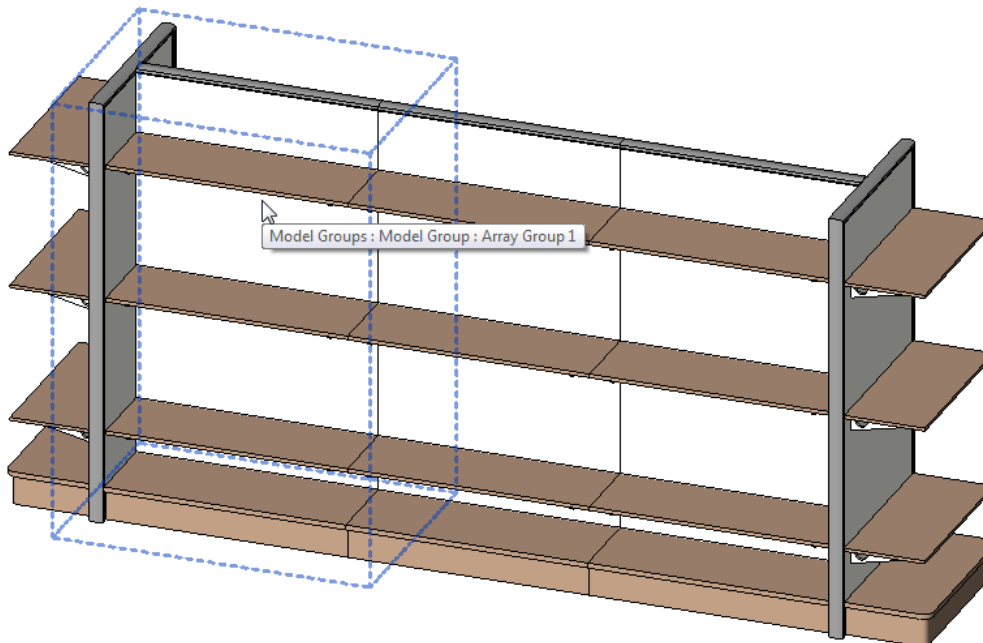

Figure 16—Nested Families simplify the creation of parametric arrays
- **Nesting helps with rotation, mirroring and arrays**—If you need to rotate, move or mirror an element parametrically or wish to make a parametric array in your family, nesting is almost a must. It is not impossible to achieve these behaviors without nesting, but it can be much more challenging (see Figure 16).